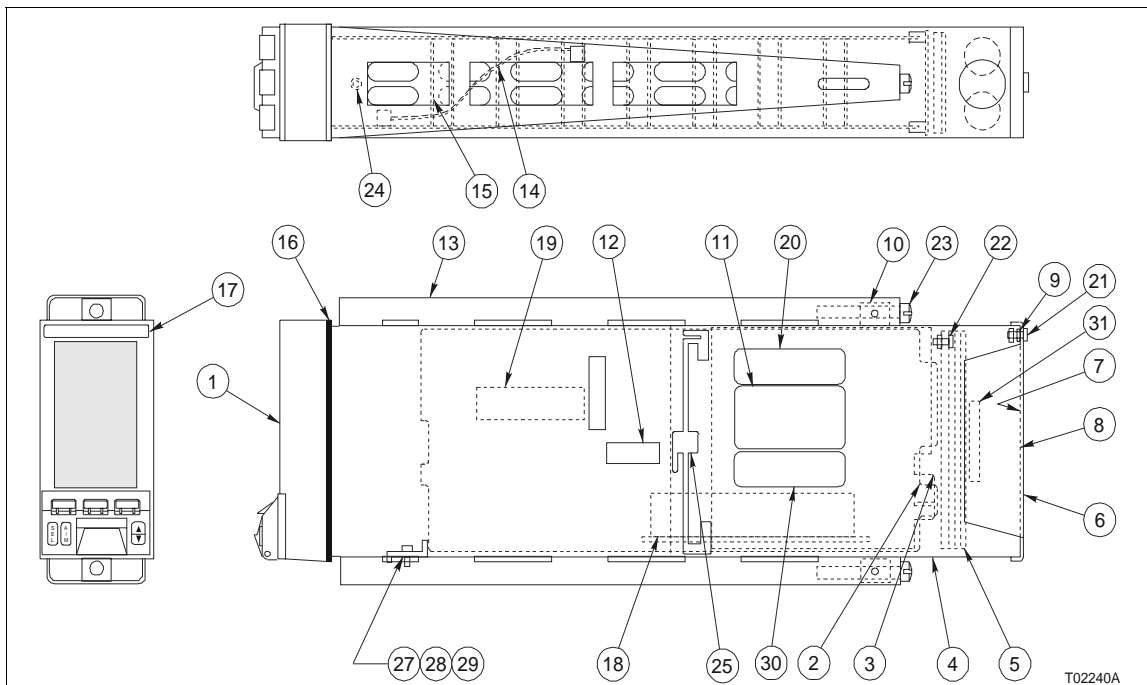

Figure 8-4. Parts Drawing
ABB is ready to assist in the use and repair of its products at any time. Requests should be made to the nearest sales or service office. Table 8-1 is the parts list for Figure 8-4.
Table 8-1. Parts List (Figure 8-4)
Table 8-1. Parts List (Figure 8-4) (continued)
1. Refer to Figure 8-4 for item no.
2. Faceplate assembly part of item 1 assembly.
3. CJC part of item 5 assembly.
4. Fuses located on power supply board (item 3).
5. Fuse located on main board (item 2).